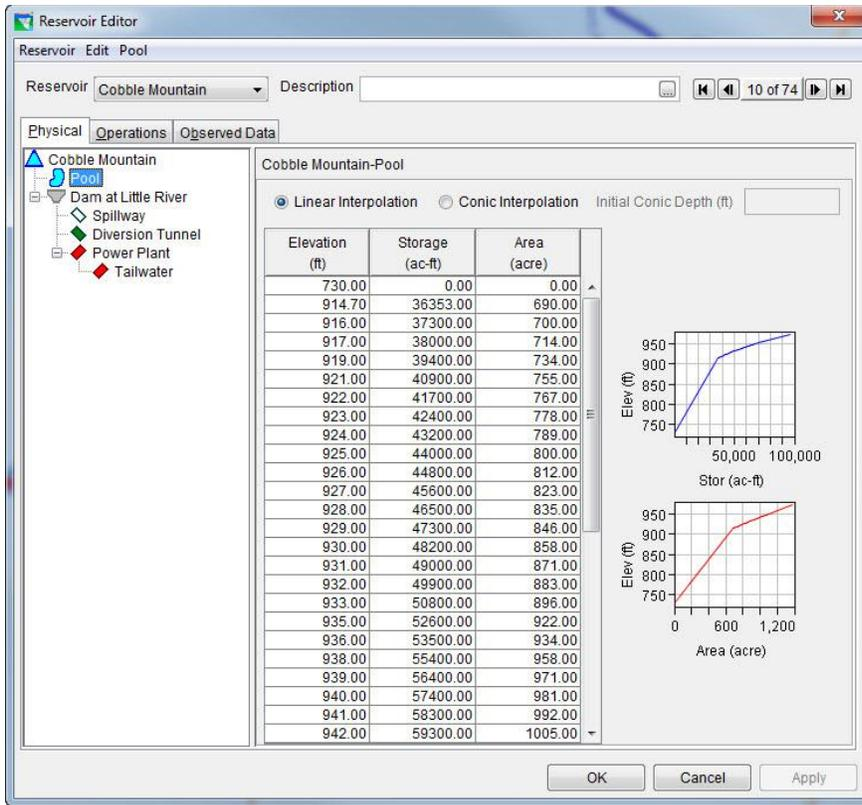
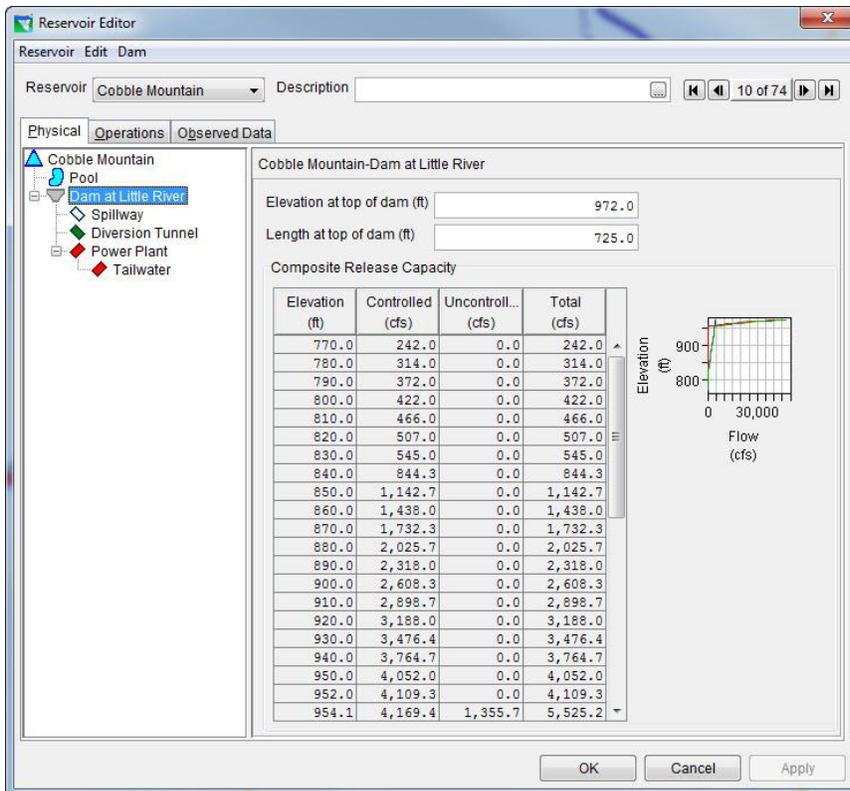

Figure 3: Reservoir Editor: Physical Tab -- Pool
Figure 4: Reservoir Editor: Physical Tab -- Dam
The physical characteristics of the reservoir are separated between the Pool and the Dam in the HEC-ResSim model. The elevation-storage-area defines the pool as shown in Figure 316. The dam consists of two types of outlets: (1) controlled slide gates, and (2) uncontrolled outlet, as shown in Figure 4.